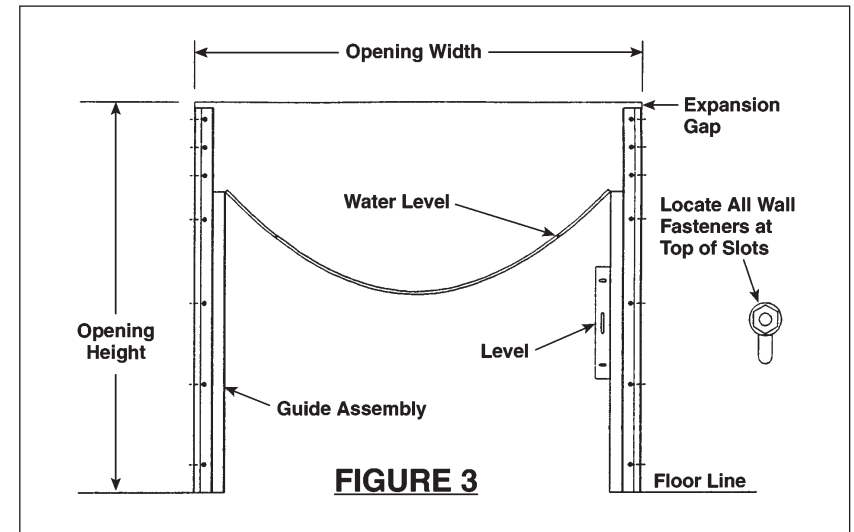

FIGURE 3
- Measure the length of the guide jamb angle and the height of the jamb opening. The difference must allow expansion of the guides 1/8" per foot of opening height. See Figures 3, 6A and 6B.